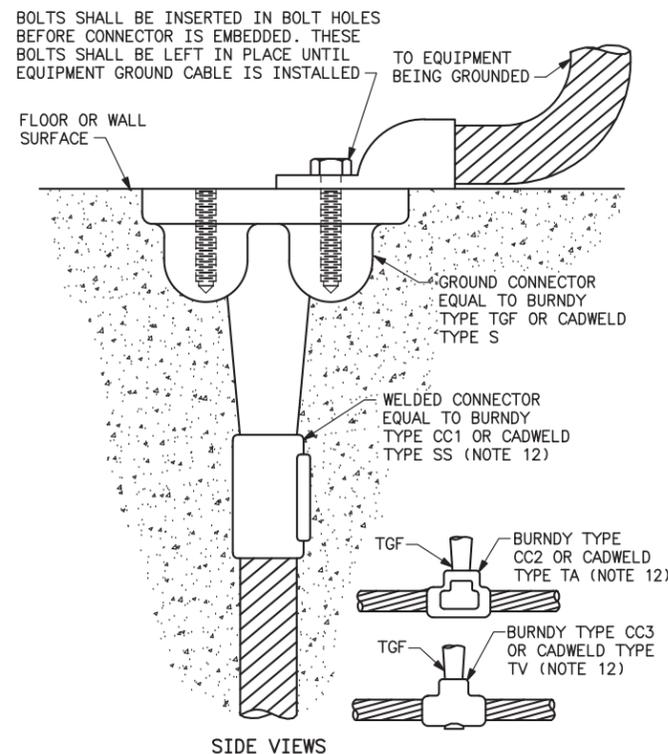

FIGURE 4
- GROUND CABLES FOR CONNECTION TO EQUIPMENT SHALL BE OF SUFFICIENT LENGTH TO BOLT TO EQUIPMENT WHEN ULTIMATELY INSTALLED. TERMINATIONS AS SHOWN IN FIGURE 4 DWG SHALL BE USED IN LIEU OF STUBOUTS. APPROXIMATE LOCATIONS ONLY ARE SHOWN ON DRAWINGS. EXACT LOCATIONS TO BE DETERMINED IN FIELD.